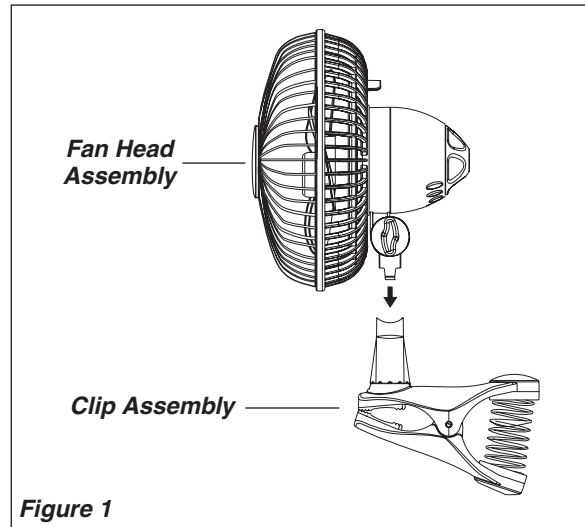

Figure 1
1. Insert the **Fan Head Assembly** into top of the **Clip Assembly** until fully seated. (Figure 1)